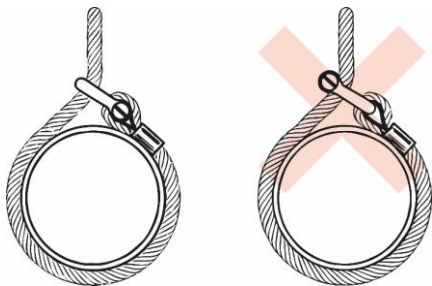

Figure 2
- To avoid loading the shackle with an eccentric load, spacers can be placed on one or both ends of the shackle pin (see Figure 2).